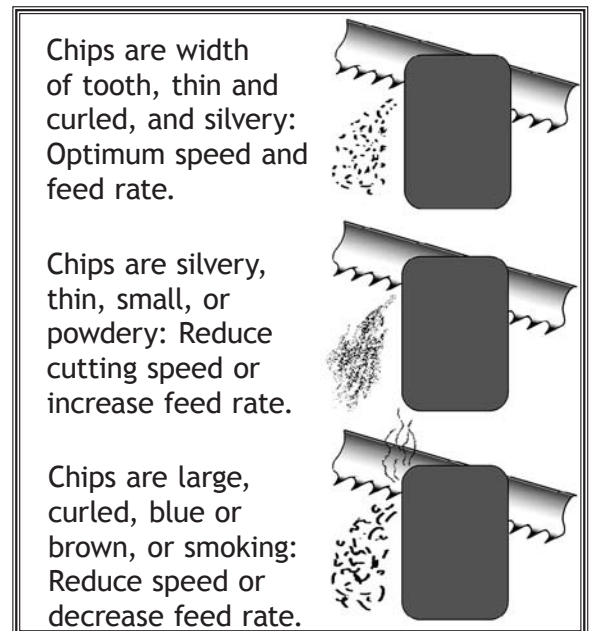

Figure 28. Reading chip characteristics.
Turning the valve lever in-line with the piping, as shown in the **Figure 28**, opens it up, which allows the fluid to circulate and allows the head to move. Turning the valve lever sideways or perpendicular to the piping closes it, which locks the headstock in place.
6. Observe the chips that exit the cut, and increase or decrease the feed rate according to the chip characteristics (see **Figure 28**).